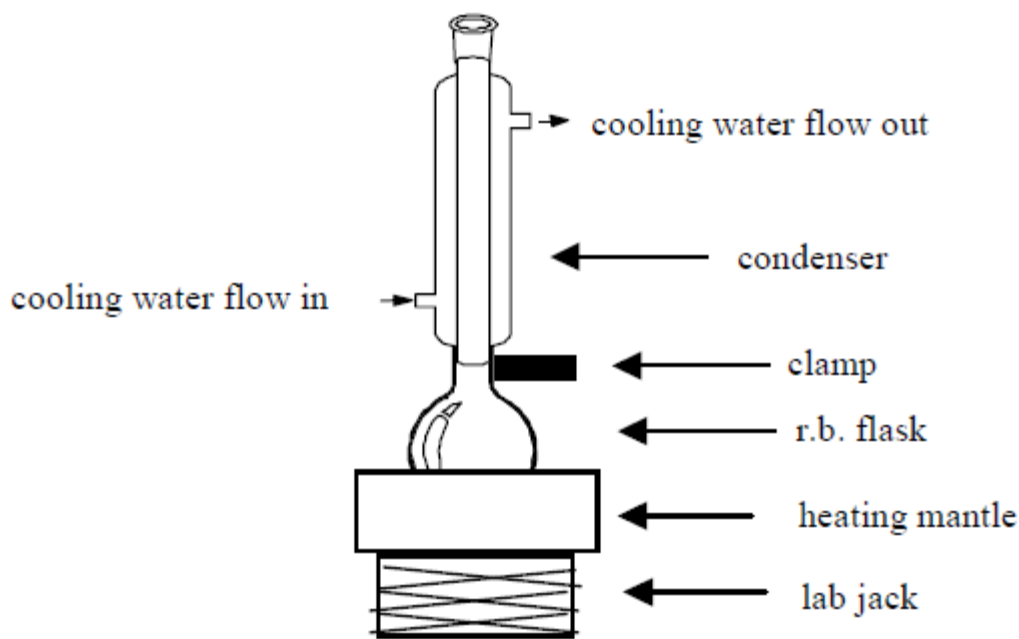

Figure 10.1 Reflux apparatus
2. Set up a reflux apparatus as shown in Figure 10.1, using a clean and dry condenser and a 100 mL round-bottomed flask.